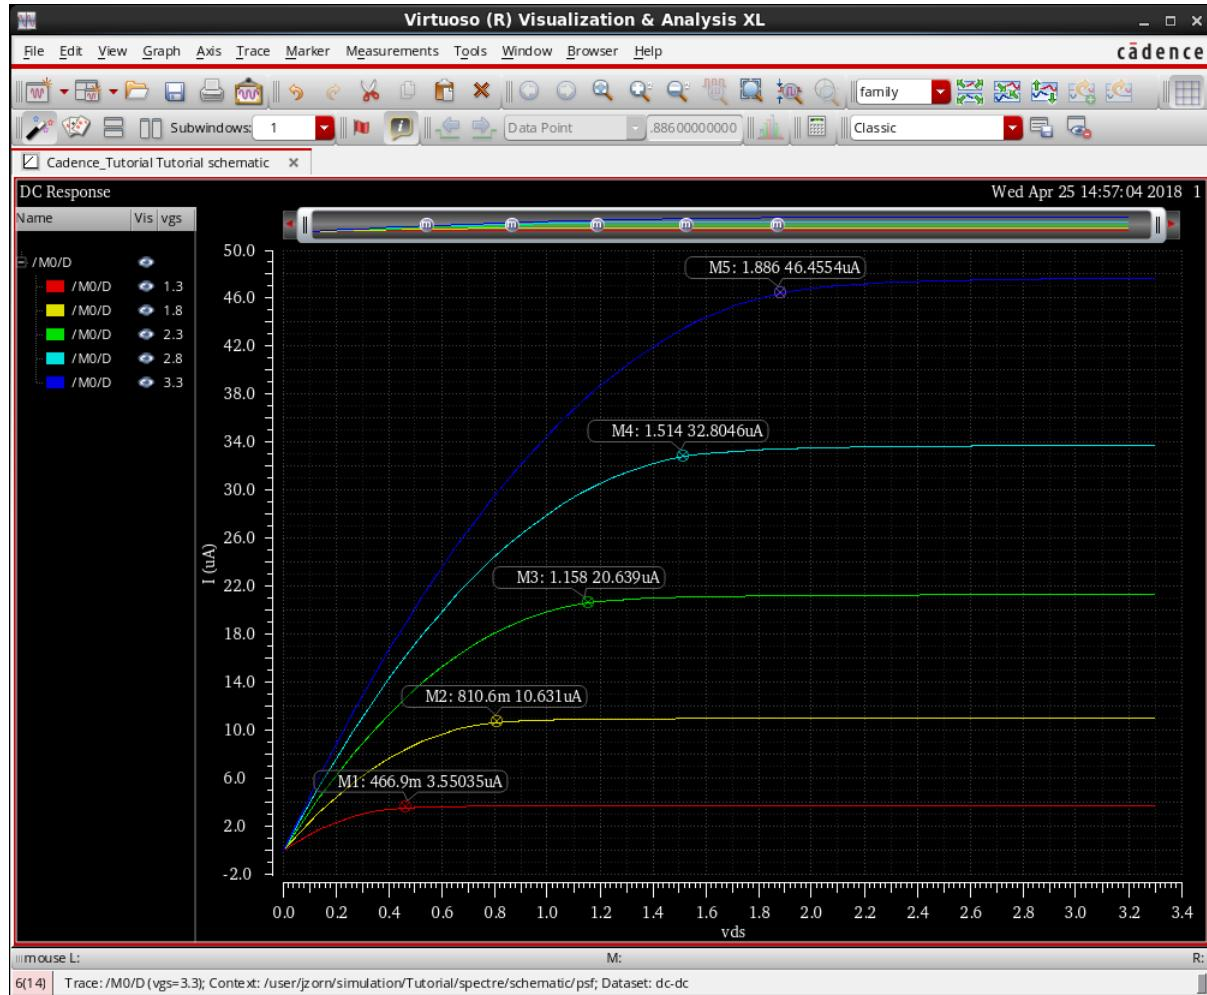

Figure 46: Characteristic curve of drain-source voltages with variable gate-source voltages
When you run the parameterized simulation, five curves are generated that correspond to DC sweeps over the defined drain-source voltage range with different gate-source voltages as coulter parameters. According to *Formula (1)*, we also expect a higher current through the transistor with increasing gate-source voltages. Figure 46 shows the five simulated curves.